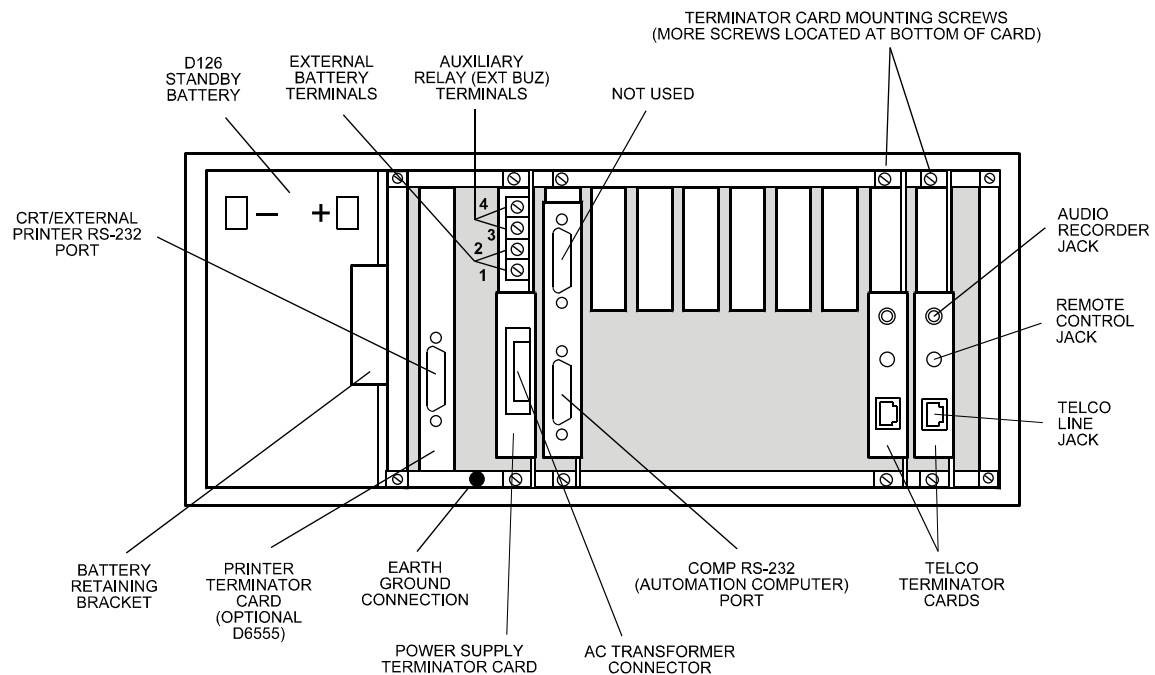

Figure 9-2: D6500 receiver, rear view (rear panel open)
- [] 5. Connect a grounding wire to the threaded Earth Ground post on the receiver cabinet frame near the Power Supply terminator card (see Figure 9-2). The grounding wire should be 16 AWG or heavier. Secure the wire to the post using the washer and nut provided. Run the grounding wire through the **EARTH GND** cut-out on the receiver's rear panel. Secure the grounding wire to a good earth ground (see section 22. Central Station Tips for details on proper grounding of the D6500).
- [] 6. There are four screw terminals on the Power Supply terminator card (see Figure 9-2). Make the appropriate connections to these terminals as outlined below: